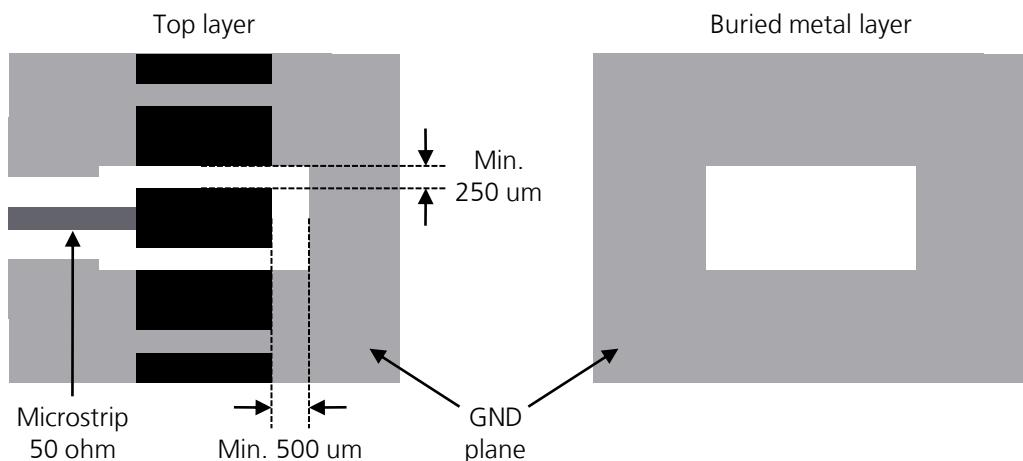

Figure 47: GND keep-out area on the top layer around the ANT pad and on the buried metal layer below the ANT pad
- Increase GND keep-out (i.e. clearance) for **ANT** pad to at least 250 μm up to adjacent pads metal definition and up to 500 μm on the area below the Data Module, as described in Figure 47.
- Add GND keep-out (i.e. clearance) on buried metal layers below **ANT** pad and below any other pad of component present on the RF line, if top-layer to buried layer dielectric thickness is below 200 μm, to reduce parasitic capacitance to ground (see Figure 47 for the description keep-out area below **ANT** pad)